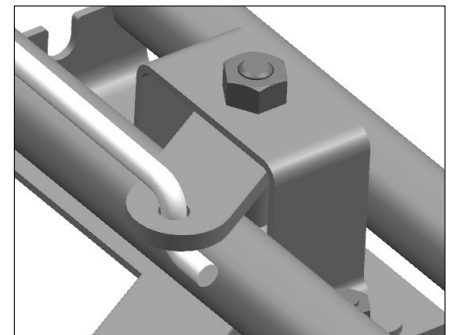

Figure 4
Step 2: Insert rod into upper control handle as shown in (figure 4).